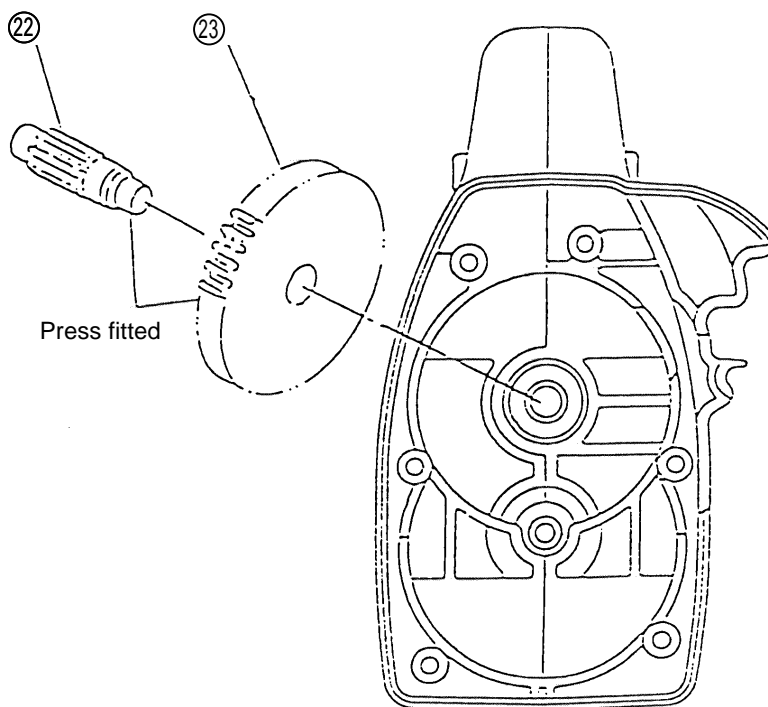

Fig. 4
Next, holding Bracket (B) ④⑤ and Bracket (A) ④③, gently remove them while carefully ensuring that Bracket (A) ④③ does not move. Then, the Second Gear ②③ and Third Pinion can be removed. (See Fig. 4)